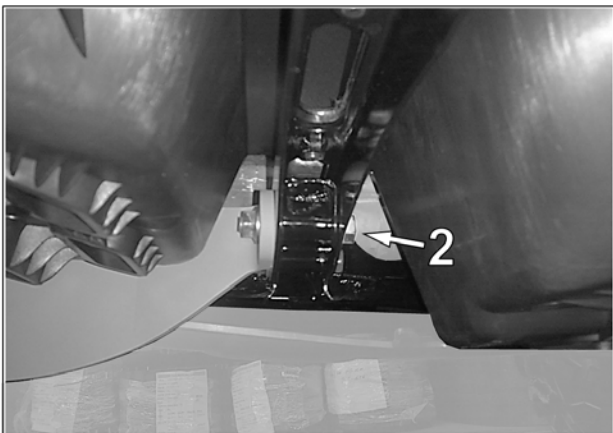

Fig. 6
6. Remove bolt (2) in splashguard support which is aligned with the hole in the bracket end bent at 90°. See Fig. 6